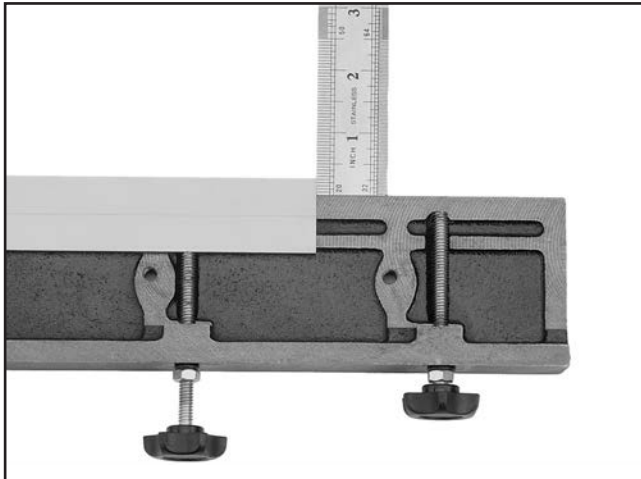

Figure 20. Measuring length of knife extending beyond front edge of slide bar.
6. Tighten adjustment knobs to force knife forward so that it extends beyond front edge of slide bar approximately $\frac{1}{4}$ " along its full length (see **Figure 20**).